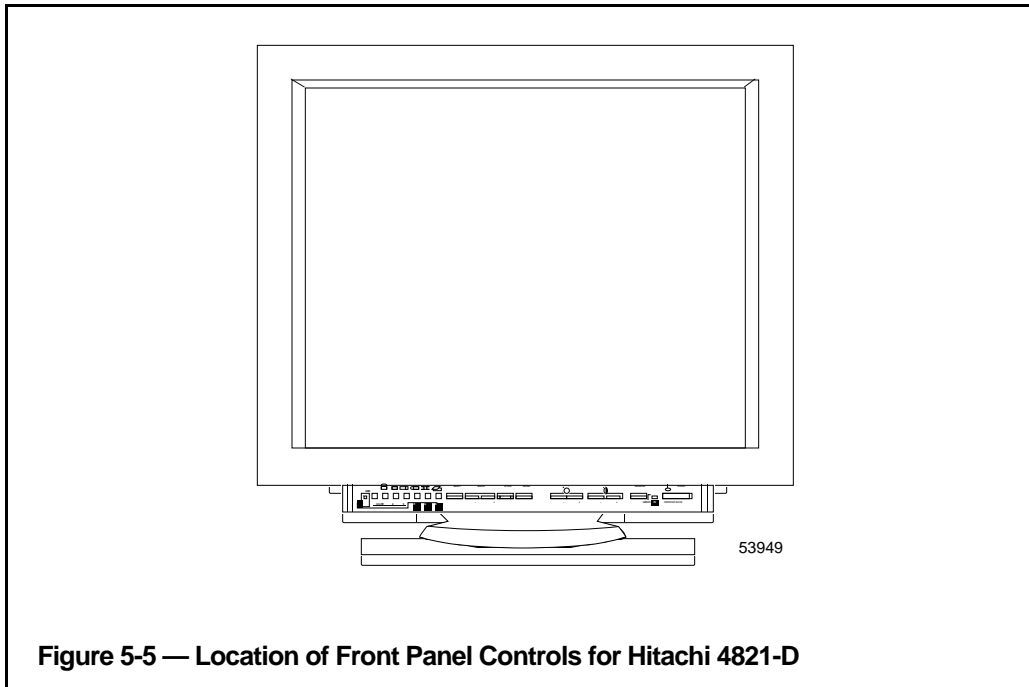

**Figure 5-4 — Location and Function of Rear Controls for IDEK #8221**
Connect video signals cables to the corresponding BNC input connectors on the rear panel as shown in Figure 5-4.
- MAIN SWITCH switch (see Figure 5-4)